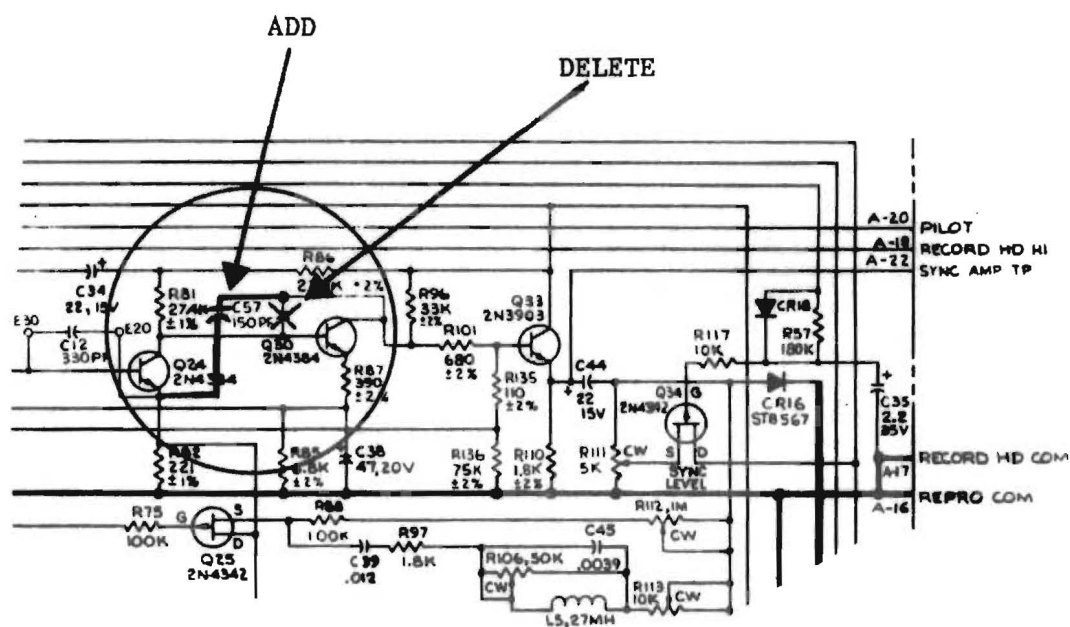

FIGURE 3
5. Change Instruction Manual schematics and parts list to reflect the new location of C-57 as indicated by figure 3.